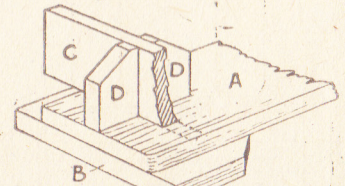
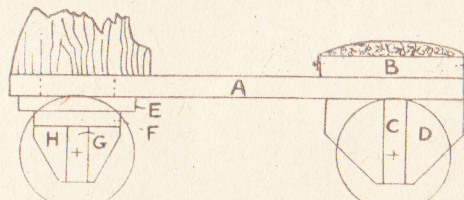

Fig. 5—Support brackets
Fig. 3—Side view of undercarriage parts
their outer corners removed, as seen in Fig. 3 and in the detail Fig. 5. This now completes the seat end of the car, with the exception of a cushion to go on top of piece (B).